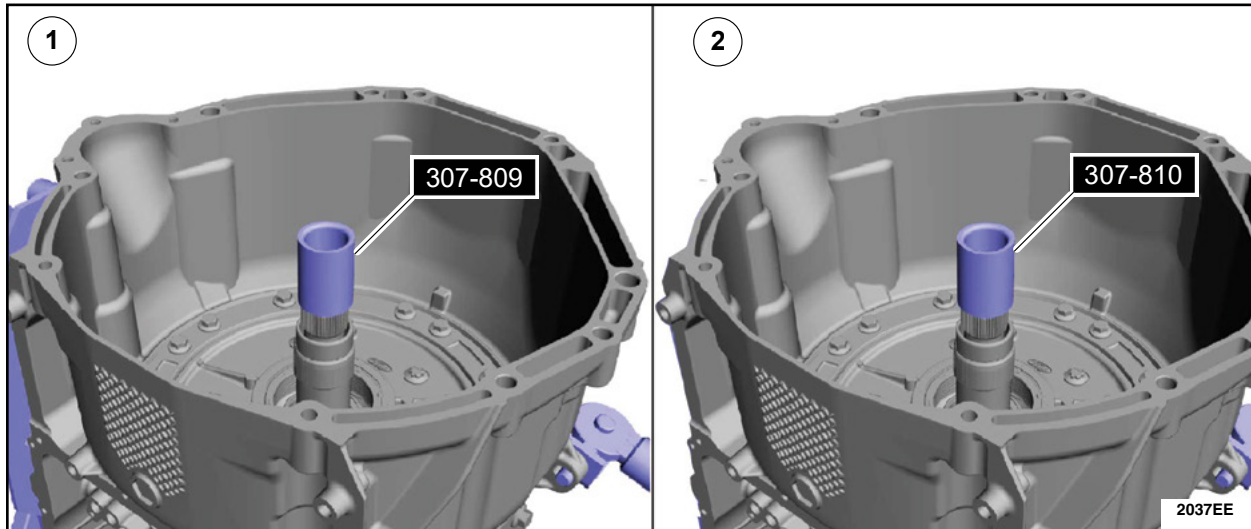

FIGURE 24
26. Using the special tool 307-809 and 307-810, size the input shaft torque converter Teflon® seals with a two step process. See Figure 24.